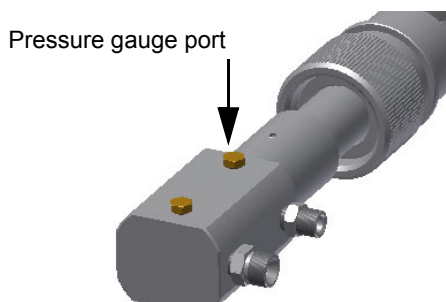
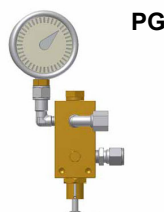

Fig. 12
Fig. 13
- 3 bleed the air from the **M** pressure gauge port (Fig. 12) by loosening the cap without removing it, then release the contactor.
- 5 Only if necessary, adjust the supply pressure as follows (see related paragraph); insert a pressure gauge into the port shown on Fig. 13 and act on on the pump adjusting screw **VR** (see Fig. 12) as to get the nozzle pressure at 20bar (Monarch or Fluidics nozzles - see page 44-38).